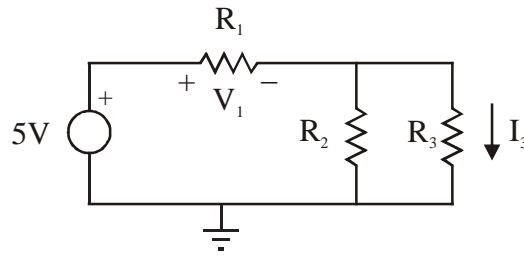

Figure 1.7 Resistor circuit schematic
- (3) Build the circuit shown in Figure 1.7 with the three given resistors on the breadboard. Note that  $R_1$  is in series with the parallel combination of  $R_2$  and  $R_3$ .